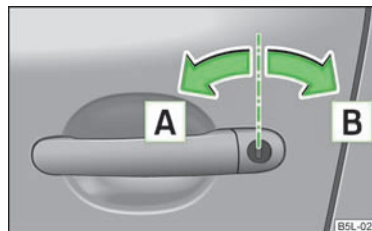

Fig. 11
- Turn the key in the locking cylinder of the driver's door in the direction of travel (unlock position) **A** » Fig. 11.
- Turn the key in the locking cylinder of the driver's door in the opposite direction of travel (lock position) **B** » Fig. 11.